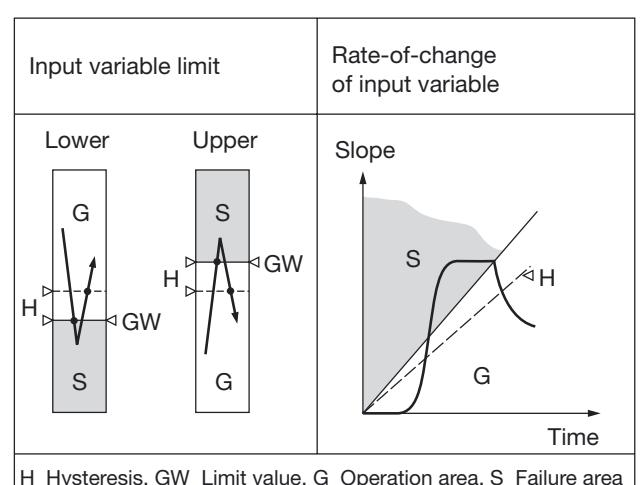

Fig. 3. Switching function according to limit monitored.
- Lower limit value of the measured variable (see Fig. 3, left)
- Upper limit value of the measured variable (see Fig. 3, left)
$$\text{Slope} = \frac{\Delta \text{ Measured variable}}{\Delta t} \\ (\text{see Fig. 3 right})$$